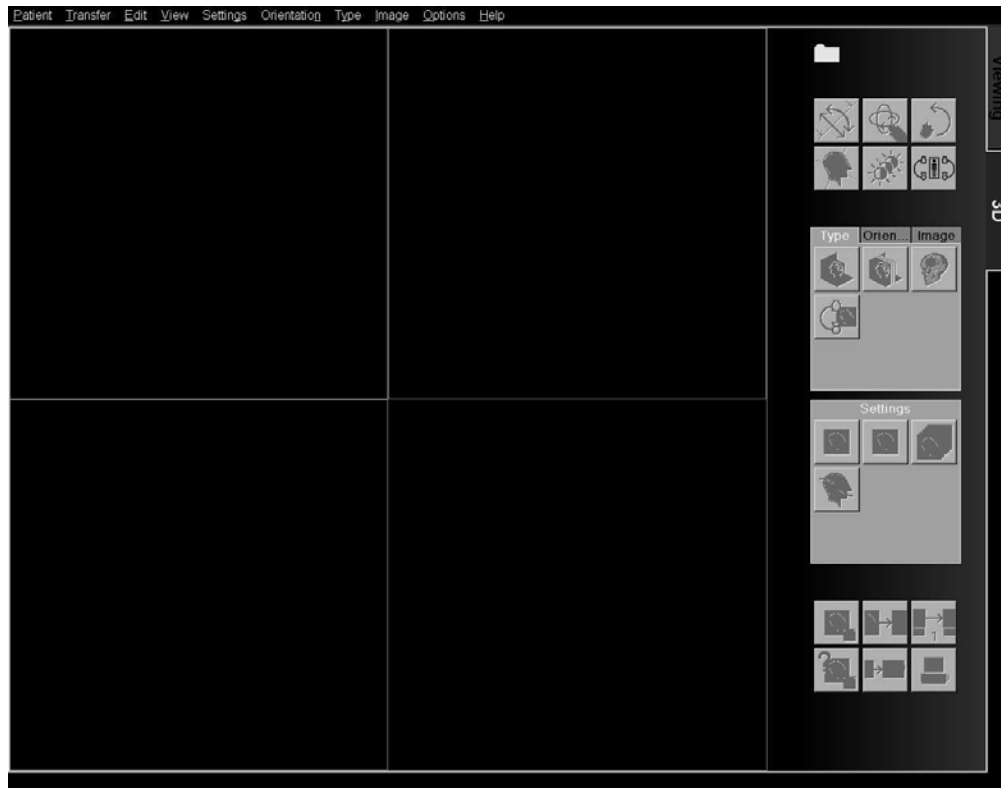

Fig. 4 Syngo start screen
- Select 3D taskcard. The syngo screen will appear on the right monitor (Fig. 4).